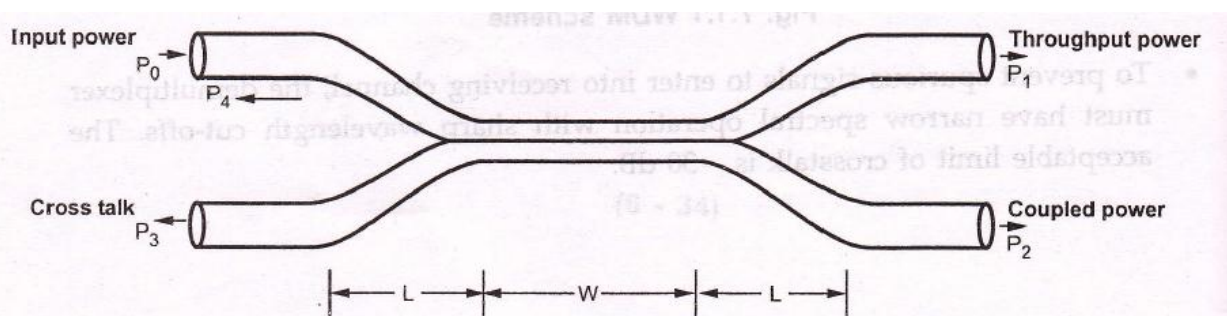

Fig. 7.1.2 2 x 2 fiber coupler
- A device with two inputs and two outputs is called as 2 x 2 coupler. Fig. 7.1.2 shows 2 x 2 fiber coupler.